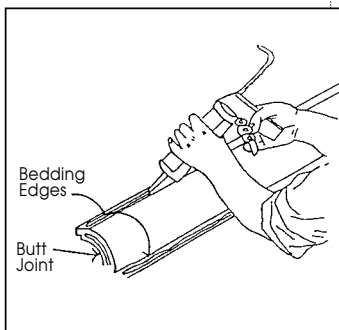

Figure 1
- For large profiles (8" face or larger) apply 1/4" bead of AD3 Adhesive #33333 to the top and bottom bedding edges on the back side of moulding (see figure 1) or apply AD3 Adhesive #33333 to inside wall and ceiling marks.